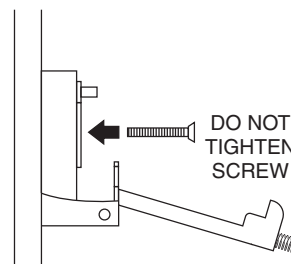

Figure 18
1. Insert screw "J" through slot in frame into bottom hole. (Figure 18)